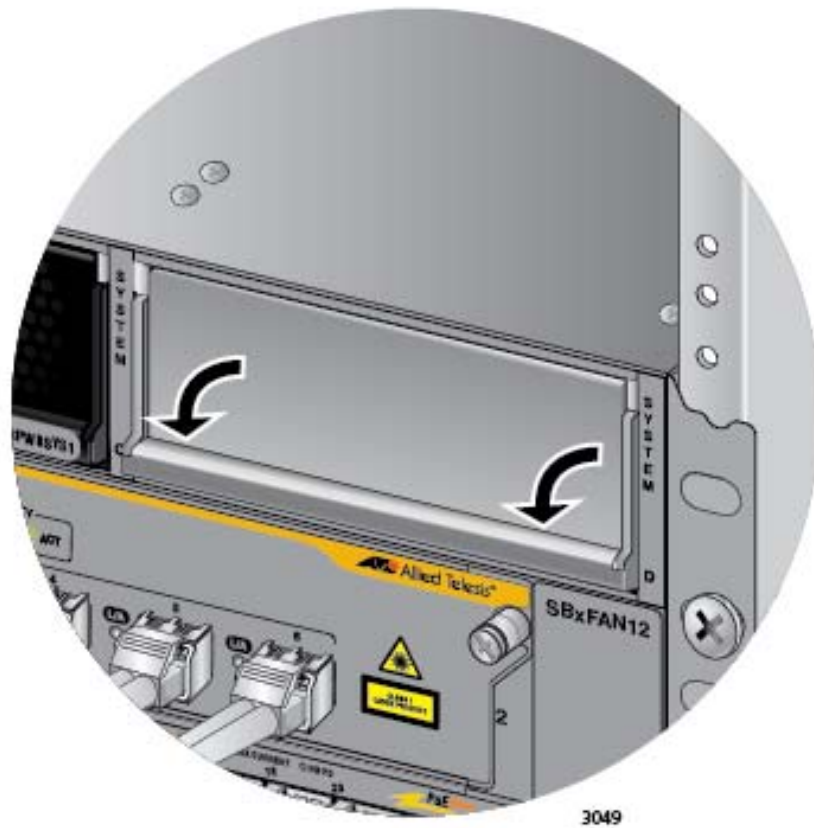

Figure 137. Lowering the Locking Handle on the Power Supply Slot Cover
6. Lower the locking handle to secure the slot cover to the slot. Refer to Figure 137 on page 208.